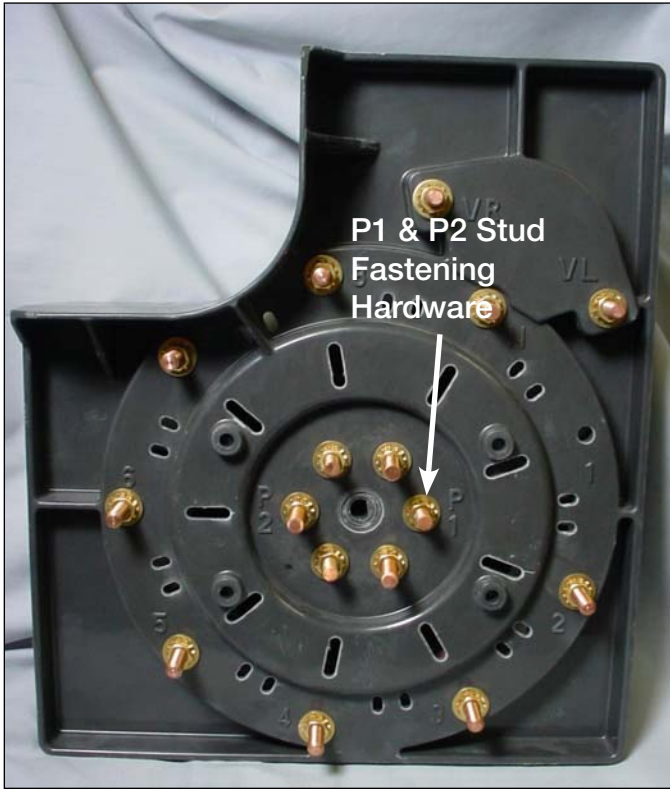

Figure 20.
- Use a 9/16 wrench or deep well 9/16 socket and ratchet to remove the six nuts, lock washer, and flat washer fastening the P1 and P2 slip ring studs to the contact panel located in the center back of the stationary contact panel. See Figure 20.